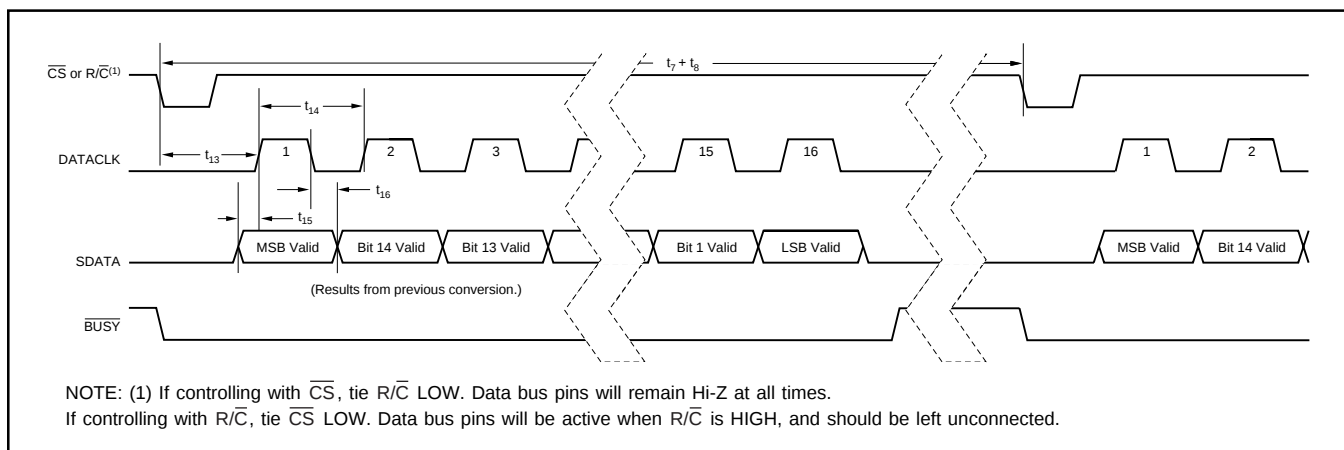

FIGURE 4. Serial Data Timing Using Internal Data Clock (TAG tied LOW).
NOTE: (1) See Figures 4, 5, and 6 for constraints on data valid from conversion "n-1".
To use the internal data clock, tie $\text{EXT}/\overline{\text{INT}}$ (pin 8) LOW. The combination of $R/\overline{C}$ (pin 22) and $\overline{CS}$ (pin 23) LOW will initiate conversion 'n' and activate the internal data clock (typically 900kHz clock rate). The ADS7807 will output 16 bits of valid data, MSB first, from conversion 'n-1' on SDATA (pin 19), synchronized to 16 clock pulses output on DATACLK (pin 18). The data will be valid on both the rising and falling edges of the internal data clock. The rising edge of $\overline{BUSY}$ (pin 24) can be used to latch the data. After the 16th clock pulse, DATACLK will remain LOW until the next conversion is initiated, while SDATA will go to whatever logic level was input on TAG (pin 20) during the first clock pulse. Refer to Table VI and Figure 4.